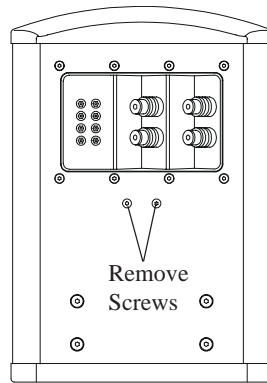

Figure 14
1. Using the supplied Allen Wrench, remove two screws from the rear of the XLS320 Loudspeaker System located below the recessed connection plate. Refer to figure 14 on the next page.